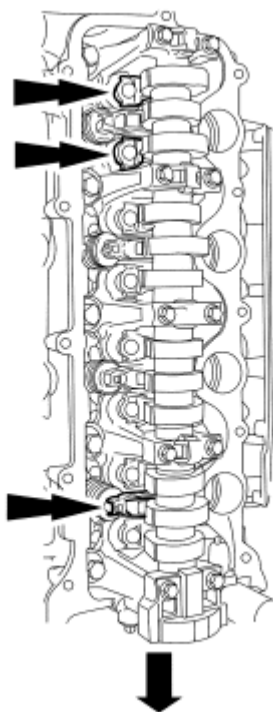

Fig. 112: Identifying RH Cylinder Head Camshaft Roller Followers And Bolts
7. Remove only the 3 camshaft roller followers shown in the **Fig. 112**.